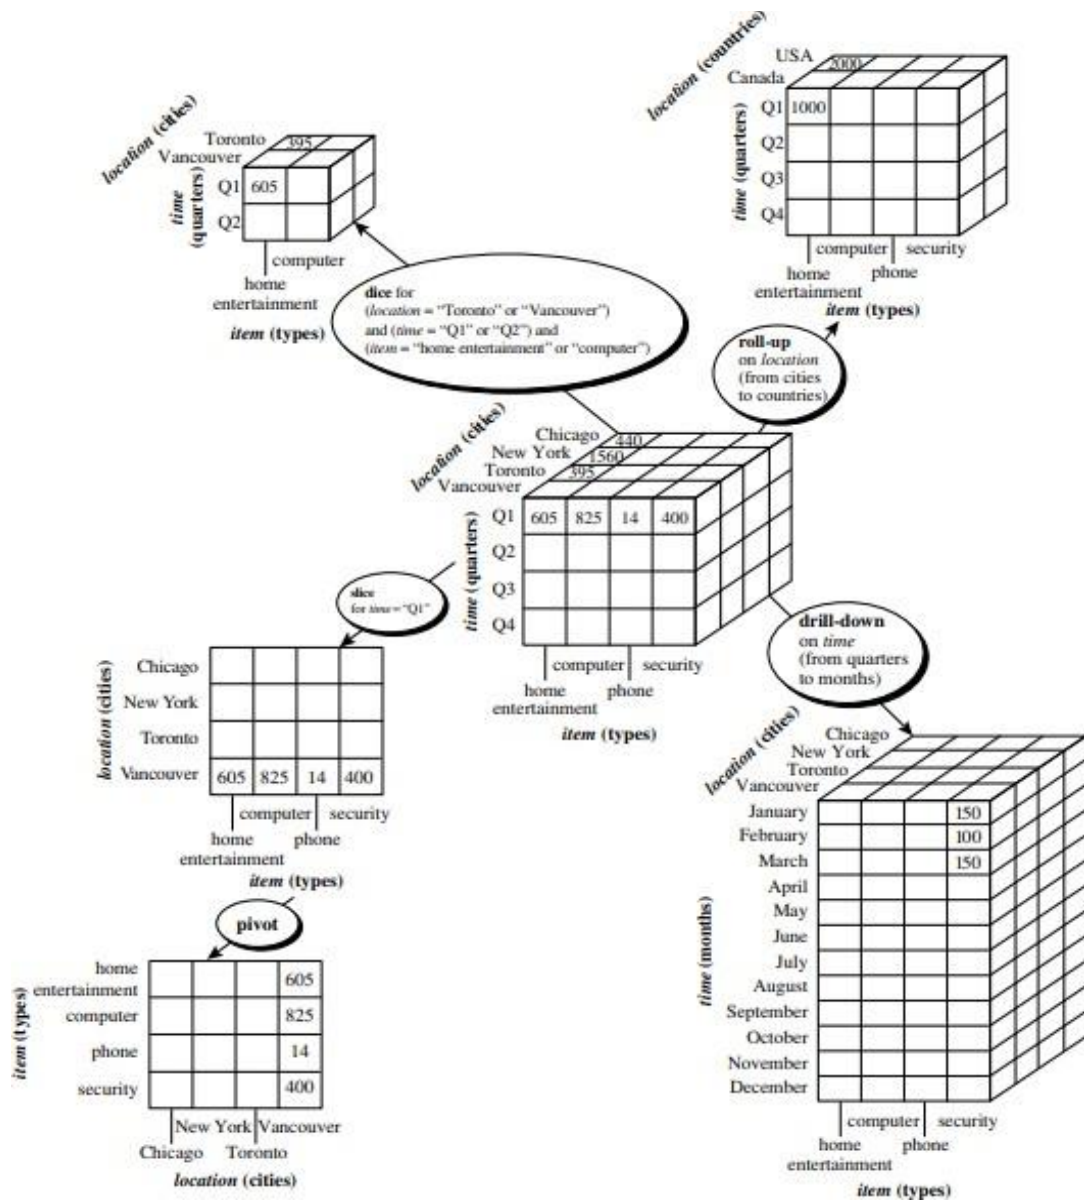

Figure 2.1: Examples of typical OLAP operations on multidimensional data.
- Figure 2.1 shows the result of a roll-up operation performed on the central cube by climbing up the concept hierarchy for location.
- Figure 2.1 shows the result of a drill-down operation performed on the central cube by stepping down a concept hierarchy for time defined as “day < month < quarter < year.”
- Figure 2.1 below shows a slice operation where the sales data are selected from the central cube for the dimension time using the criterion time = "Q1."
- Figure 2.1 shows a dice operation on the central cube based on the following selection criteria that involve three dimensions: (location = "Toronto" or "Vancouver") and (time = "Q1" or "Q2") and (item = "home entertainment" or "computer").
- Figure 2.1 shows a pivot operation where the item and location axes in a 2-D slice are rotated.